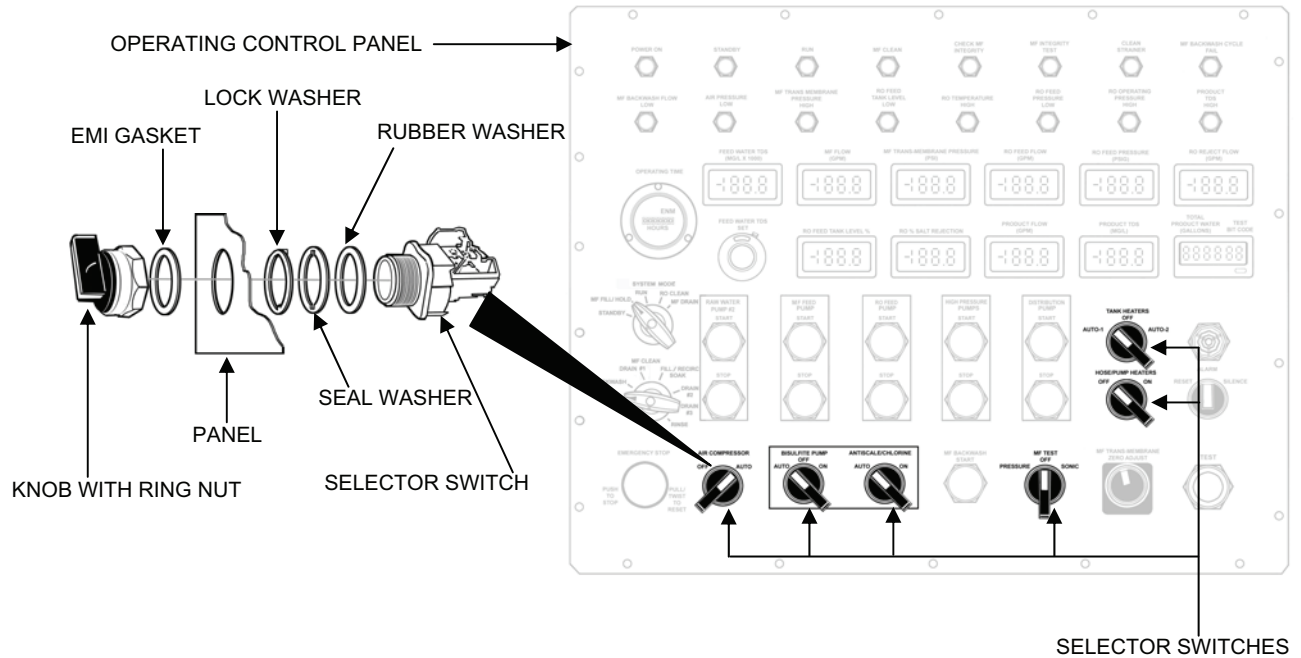

Figure 10. Selector Switch Replacement.
1. Remove a selector switch as follows (see Figure 10):